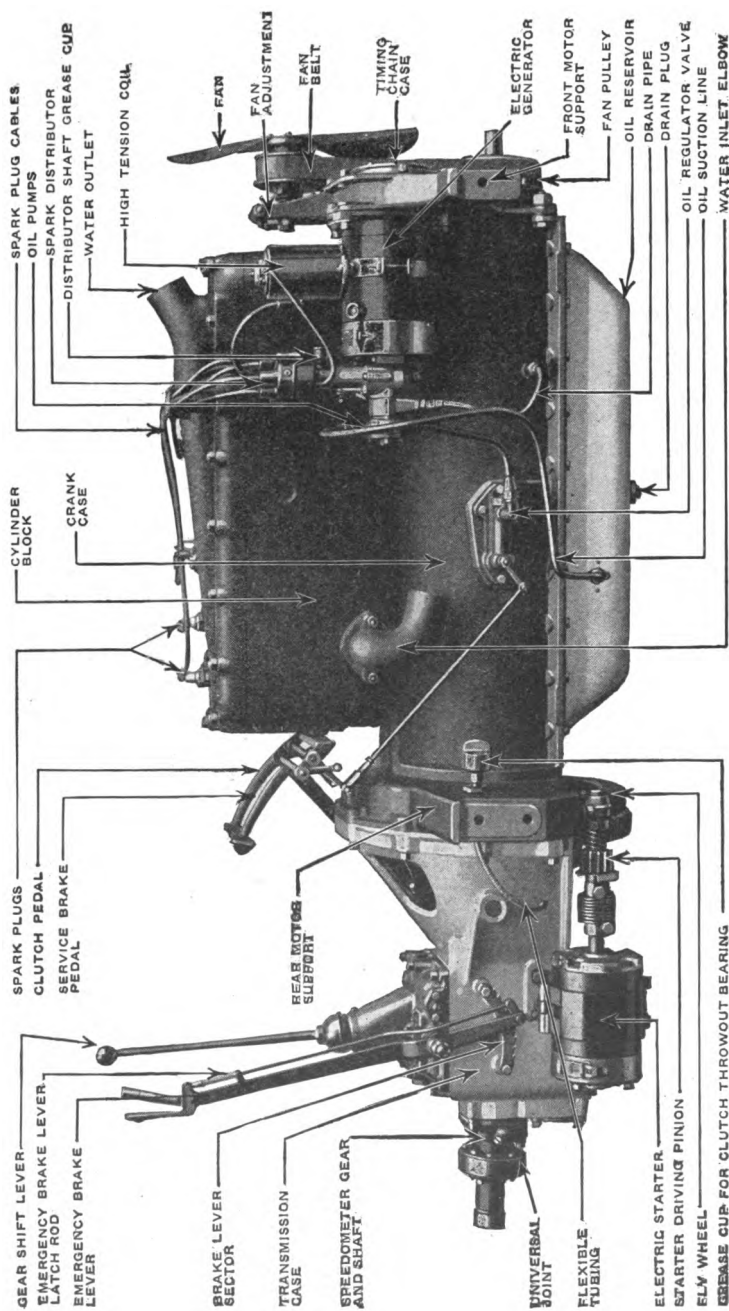

Fig. 19. Generator Side of the Chalmers 1920 Power Plant
In Fig. 19 is shown the right side of the motor. The generator, self-starter, oil pump, ignition system, and emergency break are mounted on this side of the motor. The generator is driven from the timing gears by a spur gear, while the ignition is driven by the generator shaft through a spiral gear. The distributor is
**Crank Case and Cylinder Block.** A view of the crank case and cylinder block with the cylinder head and oil pan removed is given in Fig. 22. By referring to Fig. 19, it is evident that the cylinder block and the crank case are cast as one piece. This method of casting is very popular, as it eliminates a great